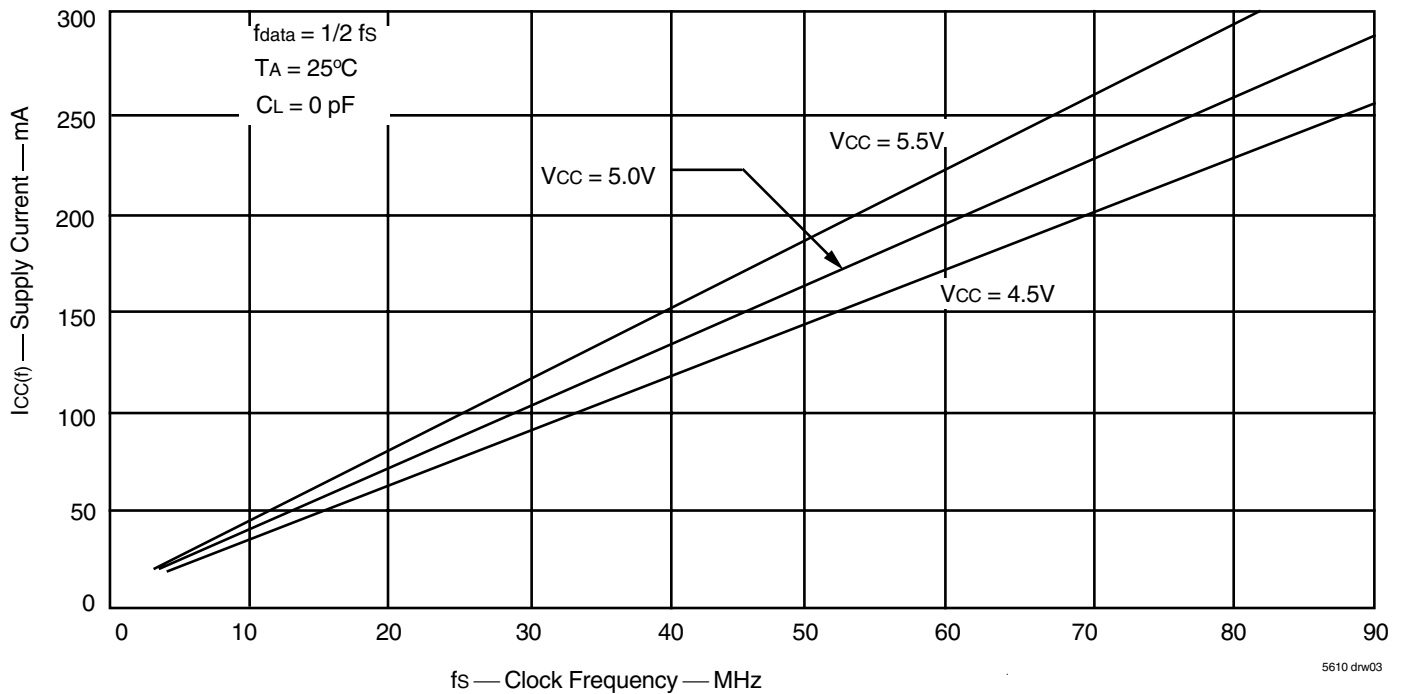

Figure 1. Typical Characteristics: Supply Current (I_{CC}) vs. Clock Frequency (f_s)
- For additional I_{CC} information, see Figure 1, *Typical Characteristics: Supply Current (I_{CC}) vs. Clock Frequency (f_s)*.
The $I_{CC(f)}$ current for the graph in Figure 1 was taken while simultaneously reading and writing a FIFO on the IDT723653/723663/723673 with CLKA and CLKB set to f_s . All data inputs and data outputs change state during each clock cycle to consume the highest supply current. Data outputs were disconnected to normalize the graph to a zero capacitance load. Once the capacitance load per data-output channel and the number of IDT723653/723663/723673 inputs driven by TTL HIGH levels are known, the power dissipation can be calculated with the equation below.
With $I_{CC(f)}$ taken from Figure 1, the maximum power dissipation (PT) of these FIFOs may be calculated by: